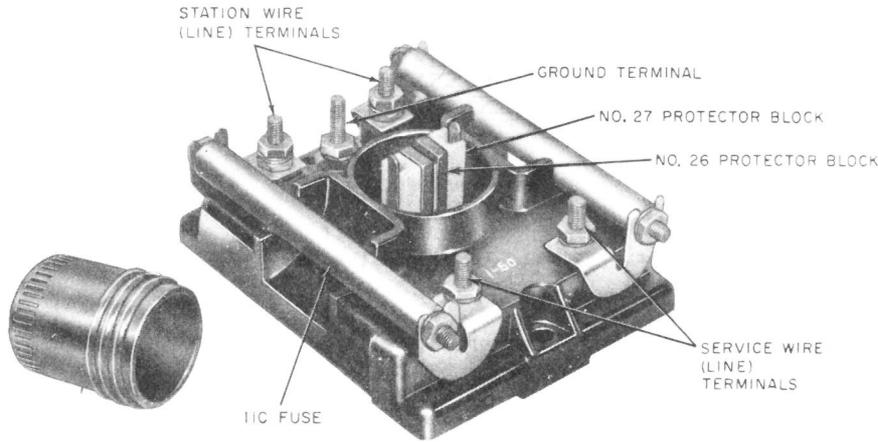

Fig. 34—98A(MD) Protector
**5.06** At older installations, the 98A(MD) protector may still be in use. The 98A(MD) protector (Fig. 34) consists of a base of nonconductive material containing five binding posts, two 11C fuses, and a carbon block protector well arranged for the use of No. 26 and No. 27 protector blocks. For outside installations, the 98A(MD) protector is mounted in a 93C protector mounting.